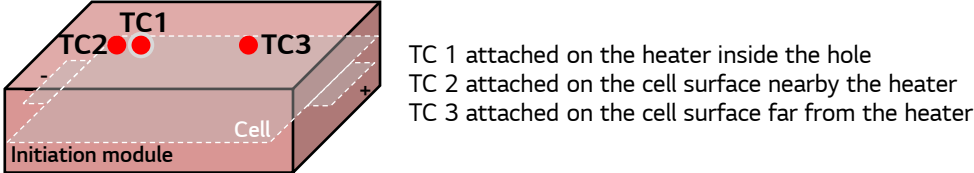

Figure 4. Position of thermocouples attached on an initiation module
- 5) The micro heater is attached on the cell surface using kapton tape. It can prevent heat loss if the heater is tightly attached on the cell surface without the air space between the cell surface and the heater. Refer to figure 4 related to position of thermocouples.